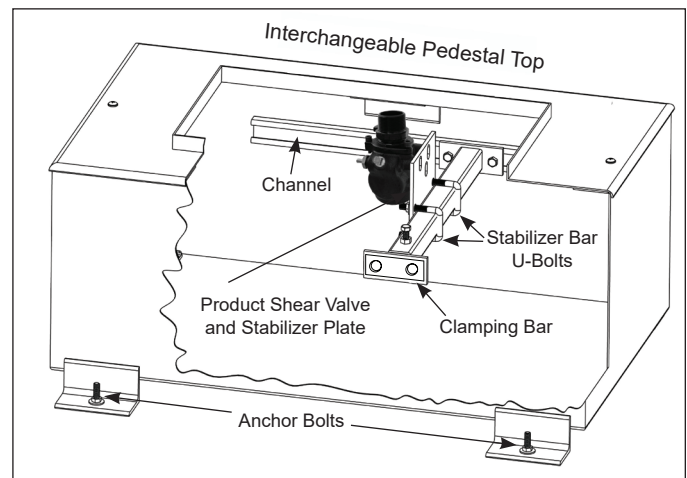
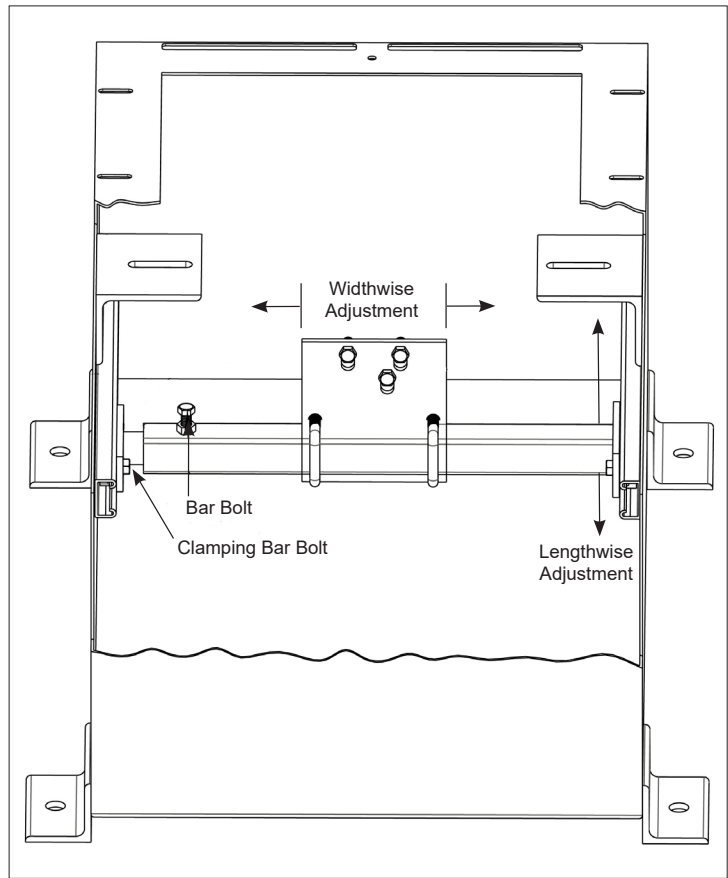

Figure 2
Figure 4
4. Remove pedestal top (see Fig.2) for ease of plumbing. Do not lose any hardware or damage pedestal top.
5. Place Fig.434 over anchor bolts and secure it to the concrete (see Fig.2) using suitable nuts and washers on the anchor bolts.
1. Insert the provided clamping bar into the channel inside the Fig.434 (see Fig.2). Install the stabilizer bar into the pedestal. Adjust the length by loosening the bar bolt and extending the bar to make contact with the channel. Screw in the clamping bar bolts without completely tightening. (see Fig.4)
3. Mount the valve and stabilizer plate to the stabilizer bar using the supplied stabilizer bar u-bolts,(see Fig.2) washers, and nuts. The u-bolt will go around the stabilizer bar, and then pass through the stabilizer plate. Tighten nuts on top of washers.